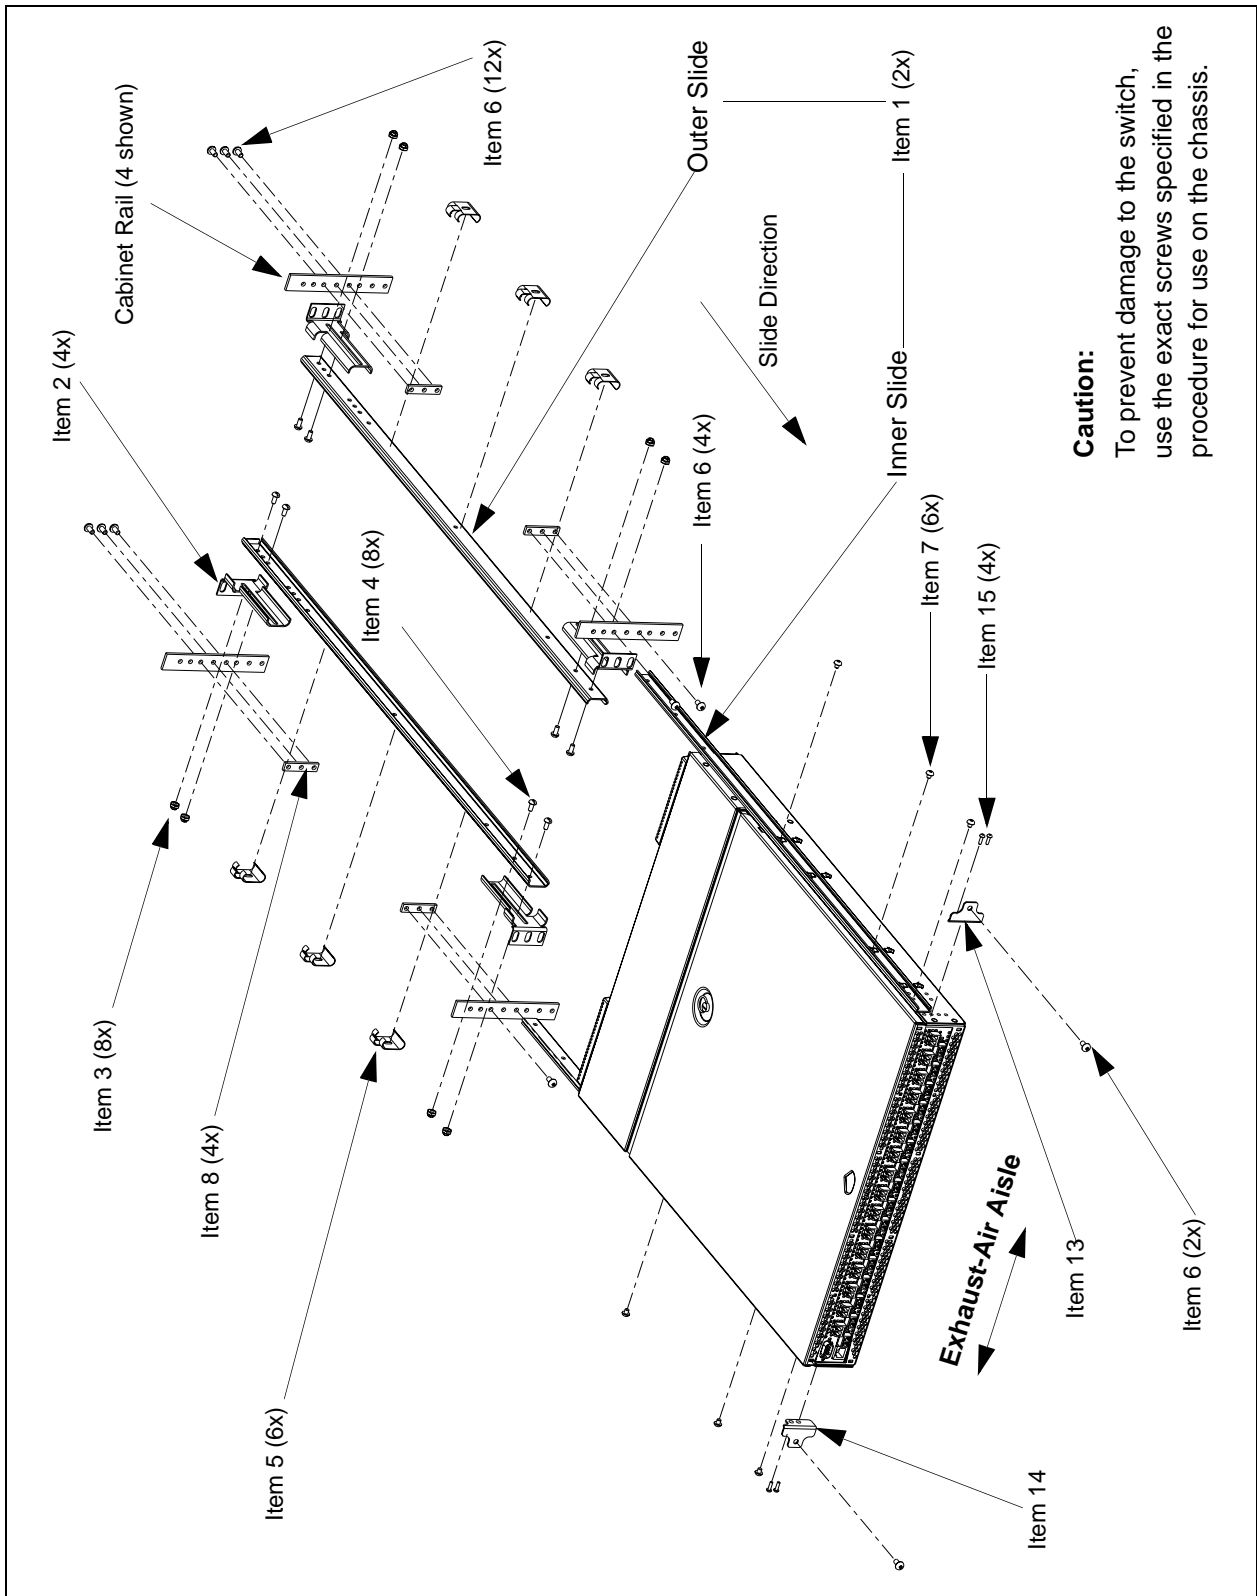
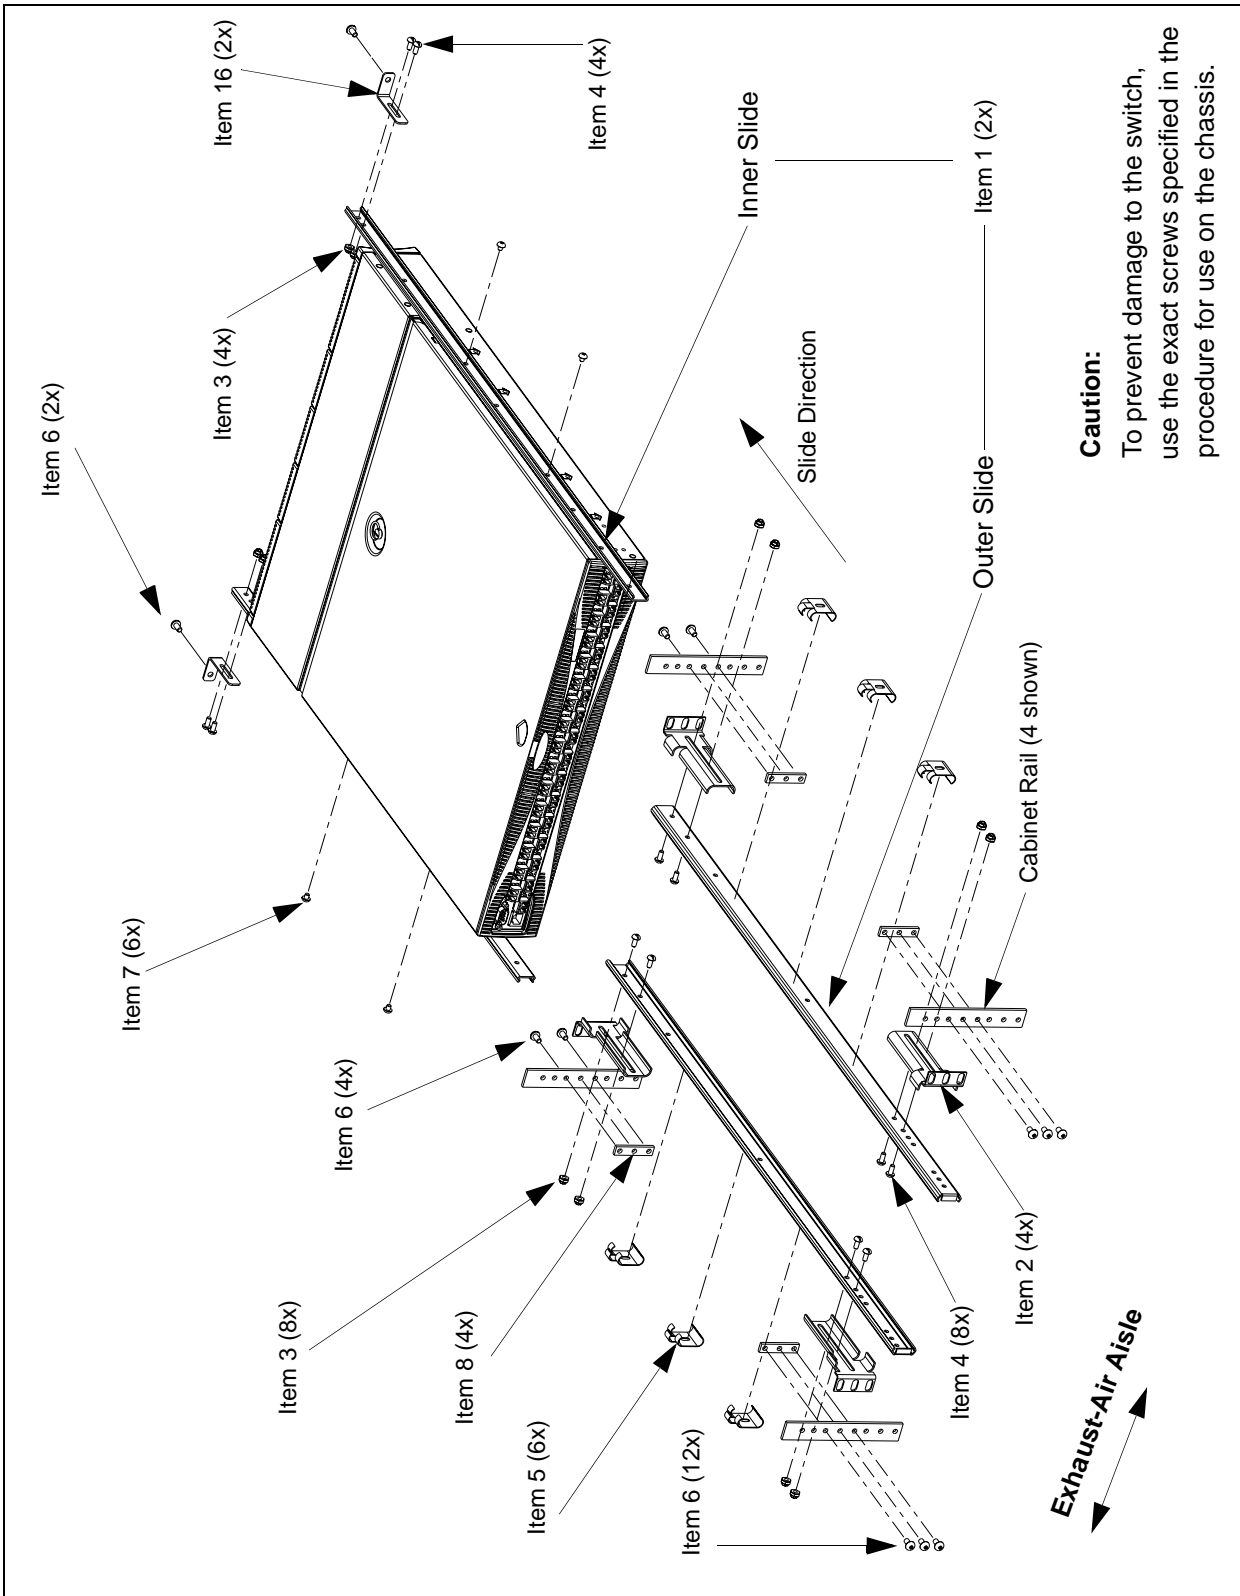

Figure 2-1 Installing a 32-Port Switch to Slide Out the Exhaust-air Side of the Cabinet
Figure 2-2 Installing a 32-Port Switch to Slide Out the Cool-air Side of the Cabinet
Orient the rail as shown in Figure 2-1 on page 2-7, with the end containing the lock release lever towards the non-port side of switch.
Orient the rail as shown in Figure 2-2 on page 2-8, with the end containing the lock release lever towards the port side of switch.
- i. Position the right Rack Mount Bracket (Item 11 or 13, depending on switch type) as shown in Figure 2-1 on page 2-7.
- i. Position a rear Rack Mount Bracket (Item 16) at the end of an inner slide rail (the end that does not contain the lock release lever), as shown in Figure 2-2 on page 2-8.
- To allow the switch to slide out the exhaust-air side of the cabinet: Orient as shown in Figure 2-1 on page 2-7, with the closed end of the slide rail towards the cool-air side of the cabinet.
- To allow the switch to slide out the cool-air side of the cabinet: Orient as shown in Figure 2-2 on page 2-8, with the closed end of the slide rail towards the exhaust-air side of the cabinet.
- b. Attach the bracket on one end of the slide rail to the corresponding cabinet rail, as shown in Figure 2-1, and Figure 2-2.
- a. Position the switch next to the cabinet as shown in Figure 2-1 or Figure 2-2 as appropriate, and align then insert the inner slide rails into the outer slide rails.